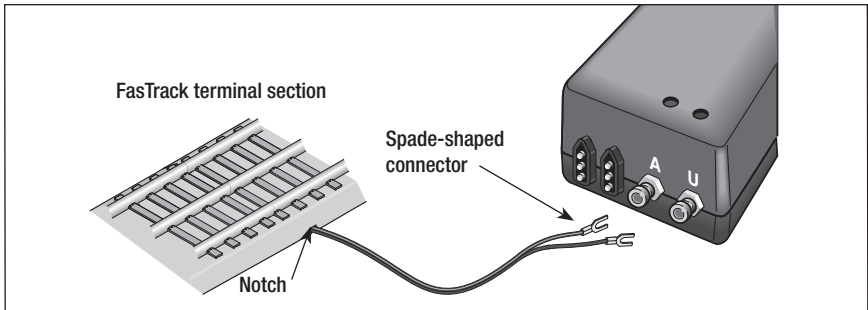

Figure 4. Transformer connections
If you are using the Lionel FasTrack track system, you will find that the terminal section easily connects to the PowerMaster's output terminals. Two wires are attached to the underside of the FasTrack terminal section (available separately, 6-12016). Attach the spade-shaped connectors at the ends of these wires to the PowerMaster. Be sure that the connections are secure. Follow these steps and refer to Figure 4.
1. **Feed the wires through the notch in the FasTrack terminal section.** Refer to Figure 4.